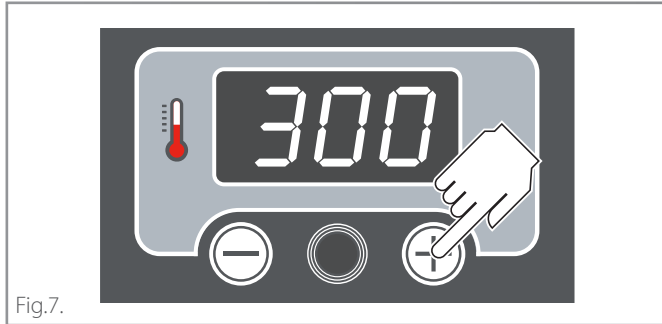
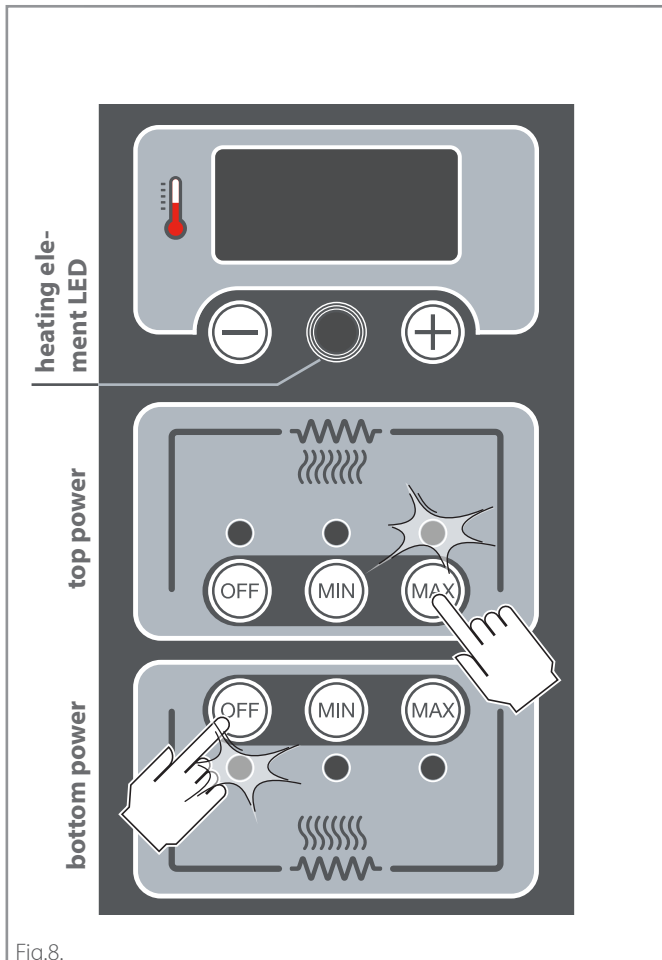

Fig.7.
Fig.8.
- set a cooking cycle with the desired parameters: (▶ **Fig.7. - Fig.8.**)
▶ **Fig.7.**
▶ **Fig.8.**